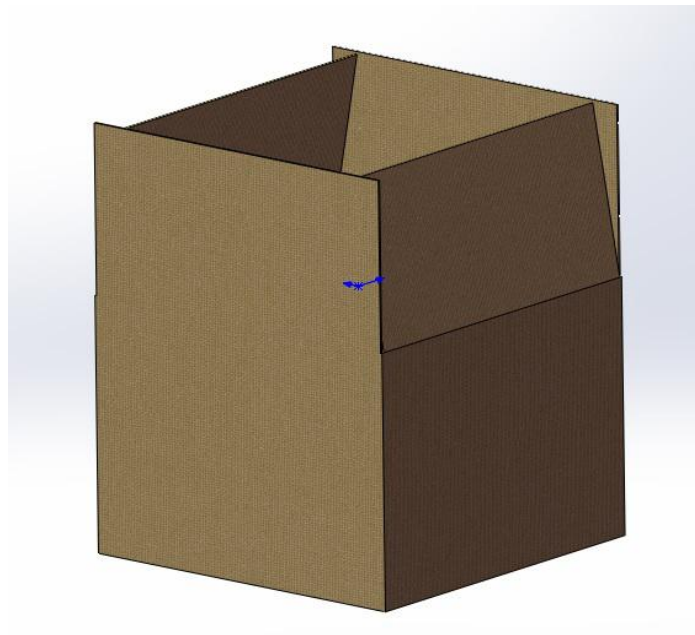
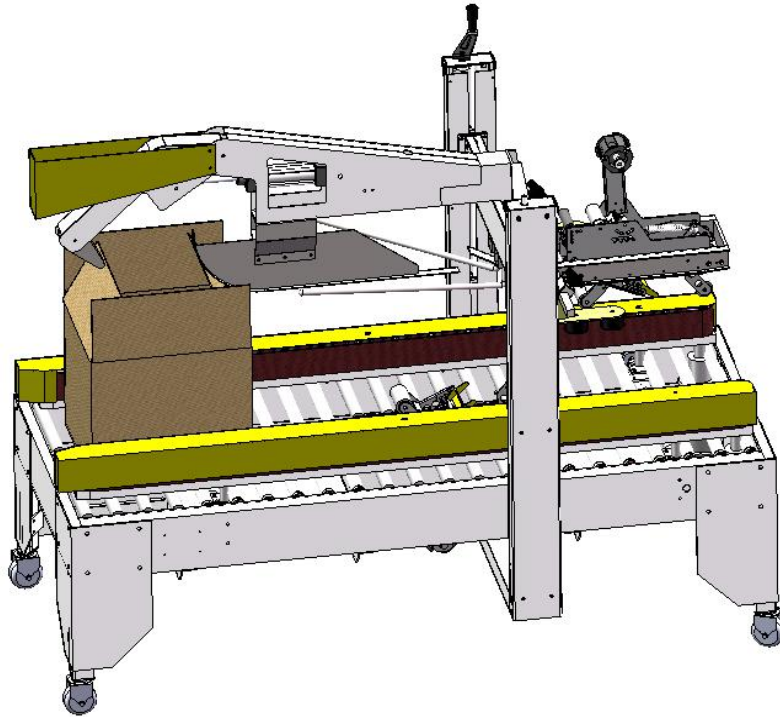

Figure 12
Figure 13
4.8 Fold the lower cover of the carton manually, after packing, fold the front and rear covers inwards slightly with a certain angle (as shown in Figure 12), after folding, feed the carton into the cover folding machine, the carton is conveyed to complete sealing with belt tightening, (as shown in Figure 13), and then subject to the next operation.